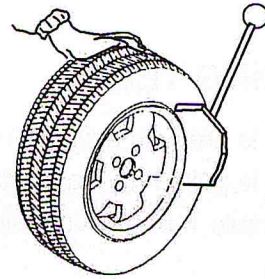

Fig.8
· Position the bead breaker blade (R) against the tyre bead at distance of about 1cm from the rim (fig.8)